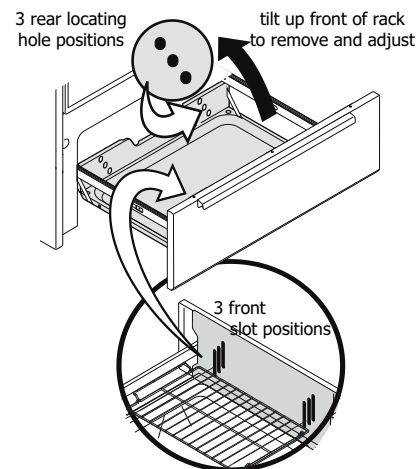

Figure 12: Setting broil rack
4. Make sure broil rack is level. (Figure 12)